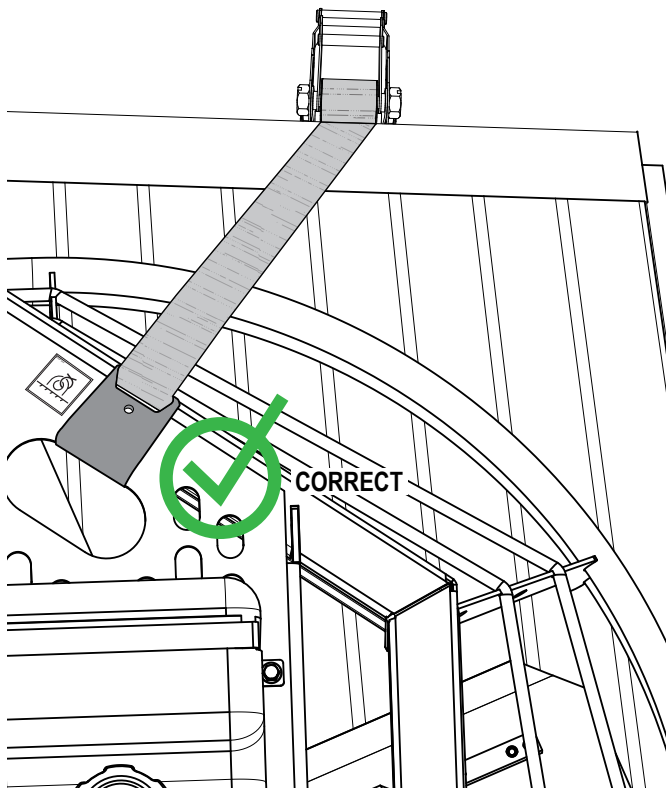
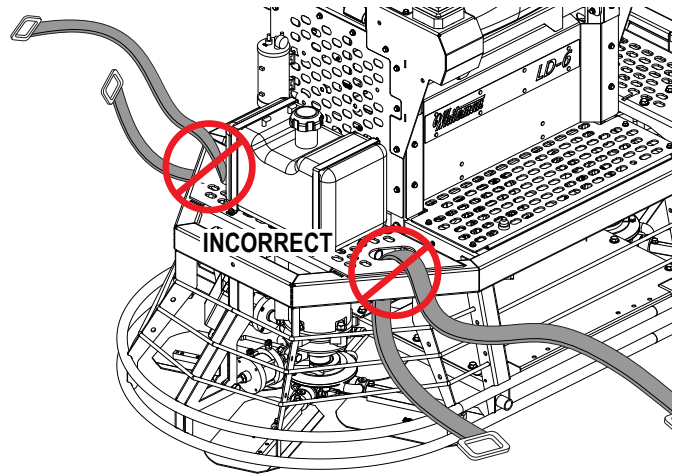

Figure 5. Tie-Dow Method (Correct)
Figure 6. Tie-Dow Method (Incorrect)
2. Attach suitable tie-down straps to the locations marked by the tie-down symbols. Be sure to connect the tie-down strap hooks directly to the trowel as shown in Figure 5. **DO NOT** wrap the tie-downs around the frame as shown in Figure 6.